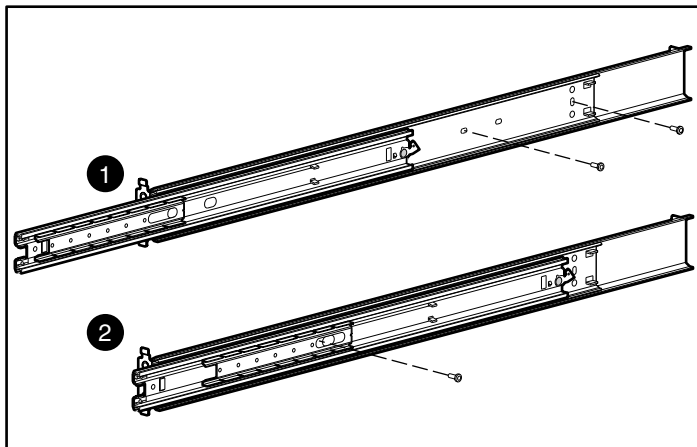

Figure 2-4. Securing the slide rail to the mounting bracket
3. Fasten the slide rail to the mounting bracket using three 8-32 x 1/4-inch slotted screws (supplied). Adjust the inner slide to access the screw holes through the slotted opening in the inner slide, and then insert the screws, as shown in Figure 2-4.